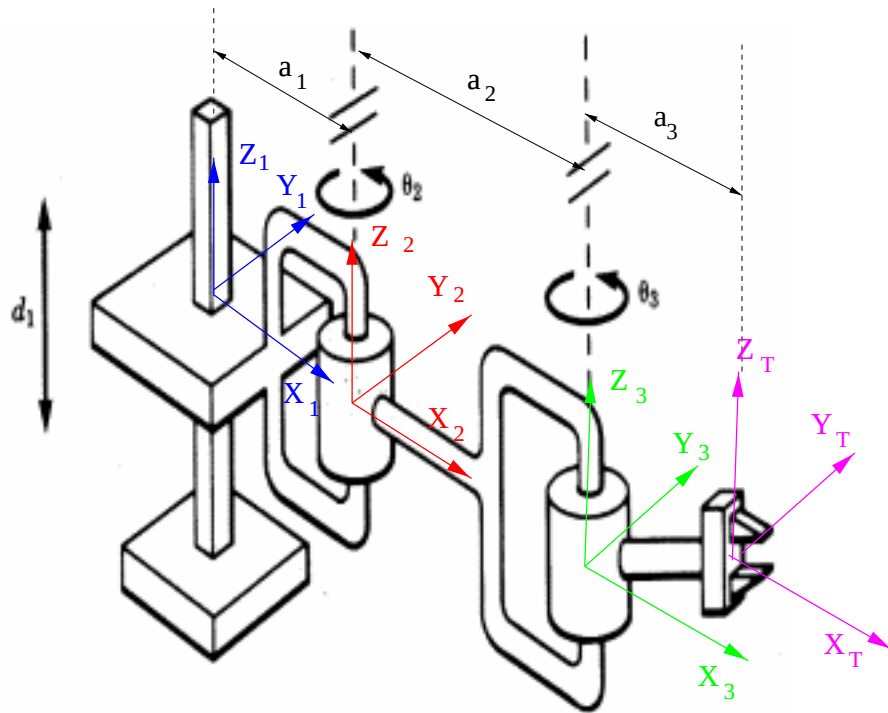

Figure 3. Frames for Problem 5.
5. (a) Figure 3 shows the manipulator with the link frame assignments determined in Homework 2, with a tool frame added at the end effector. For simplicity, assume that the final joint is “straight,” *i.e.*, it is aligned with the frames so that the relationship between the tool frame and frame 3 is a pure displacement in the x direction, *i.e.*,